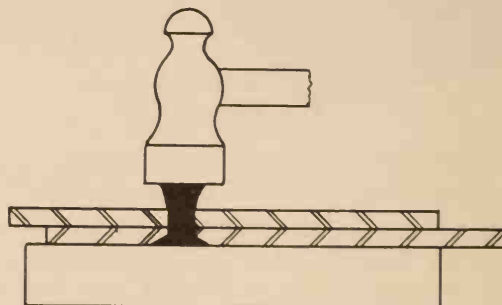

Fig. 4-95. Upsetting a rivet.
4. Upset the rivet by striking the end with the flat face of the ball-peen hammer, Fig. 4-95. This causes the rivet to expand and fill up the hole. If the rivet is to be formed, shape